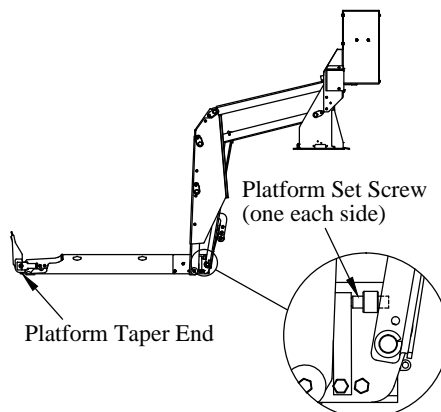

Figure 22: Platform.
3. **Adjust** the platform set screws until the platform taper end just rests on the ground (Figure 22).